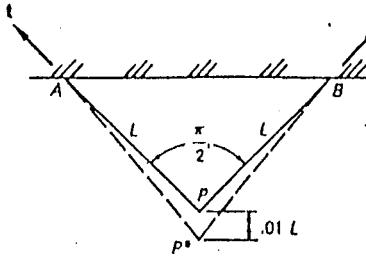

Fig. P2.32
2.32. A thin triangular plate is deformed as indicated in Fig. P2.32. Compute approximately the shear strain $\gamma_{uu}(P)$.